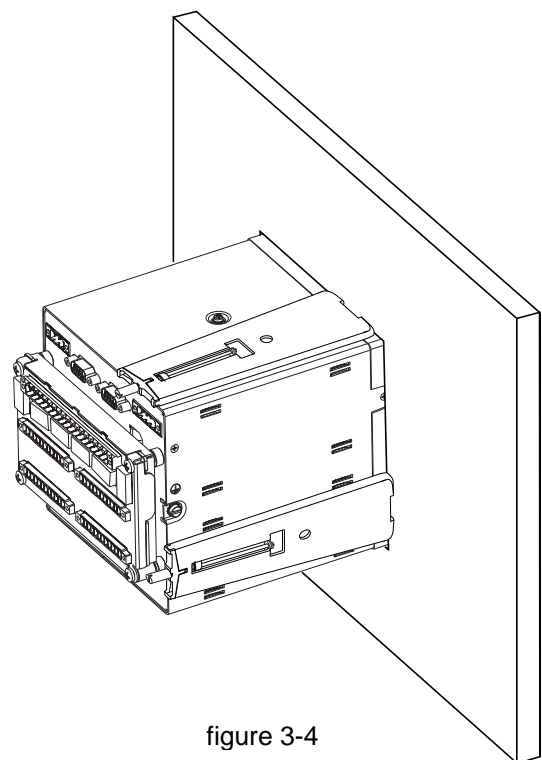

figure 3-4
6. Attach the rest of the mounting brackets in the same way at four positions. Tighten screws equally among four brackets. (figure 3-4)